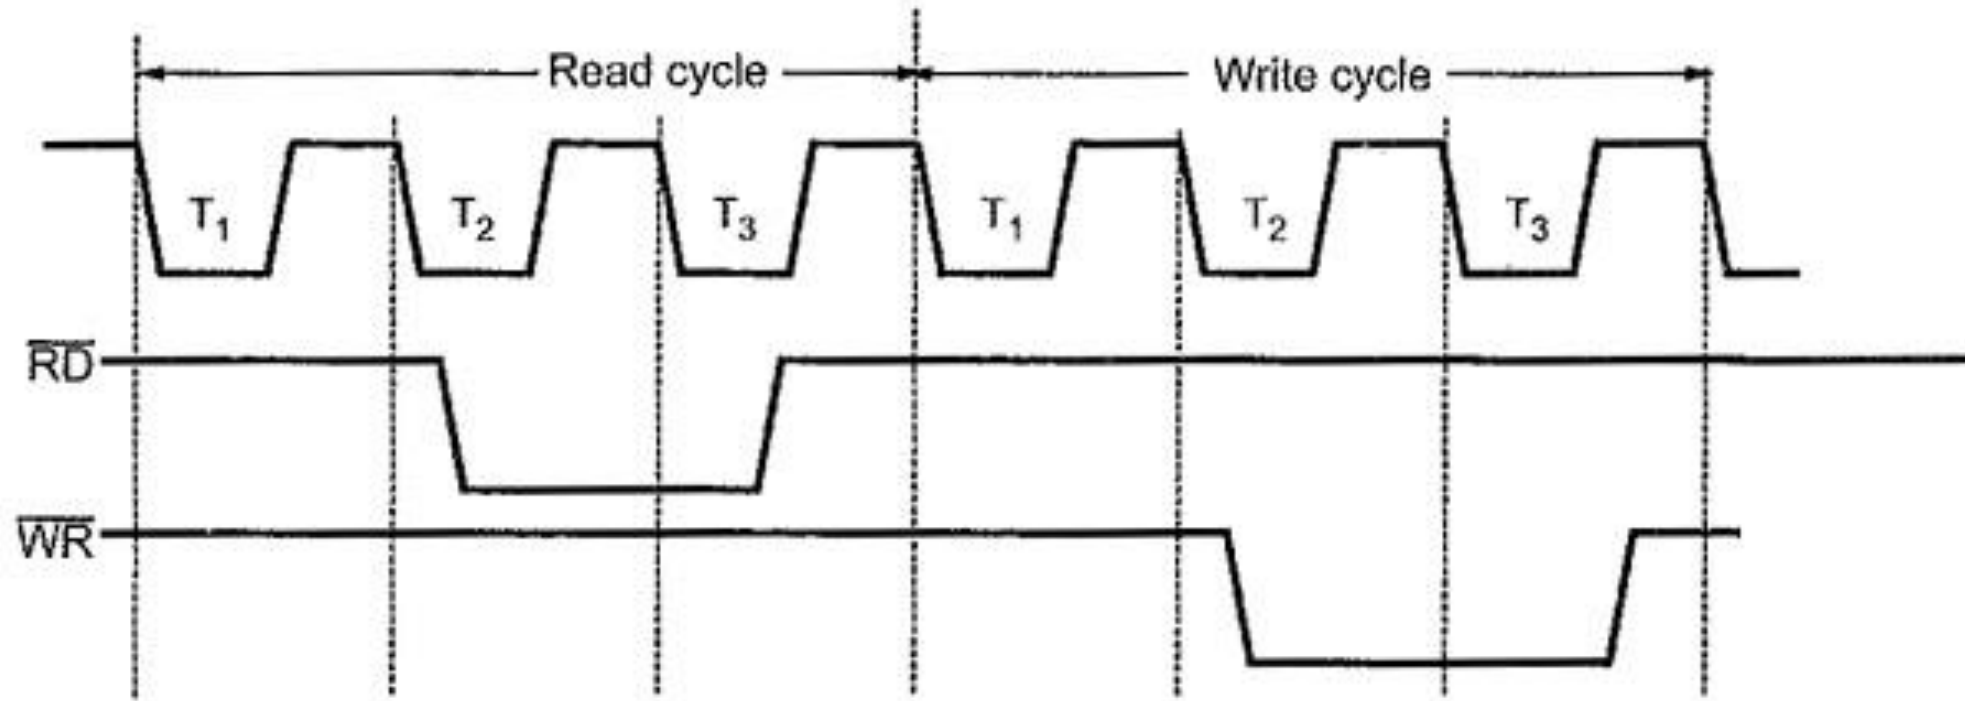

Fig. 1.14 \overline{RD} and \overline{WR} signals
- ❖ As we know data transfer in Instruction Cycle of 8085 takes place during T2 and T3, these signals are activated during T2 and T3, as shown in the Fig. 1.14.